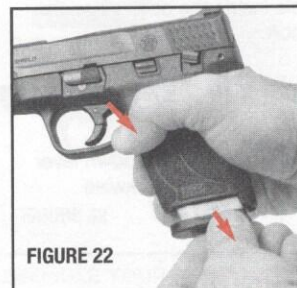

FIGURE 22
- Point the pistol in a safe direction. Make sure your finger is off the trigger and out of the trigger guard. Depress the magazine release, and remove the magazine (FIGURE 22).